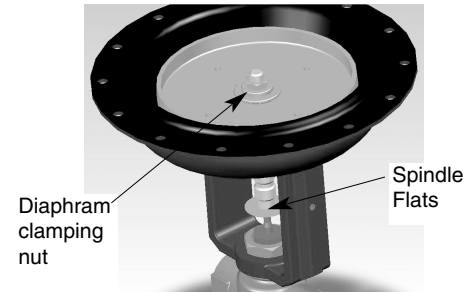

Figure 13
5. Using two wrenches, hold the actuator spindle on the wrench flats and remove the diaphragm clamping nut (Figure 13). Remove diaphragm clamping washers, o-ring and diaphragm.